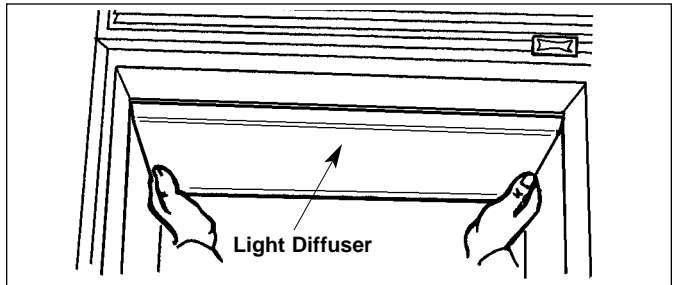
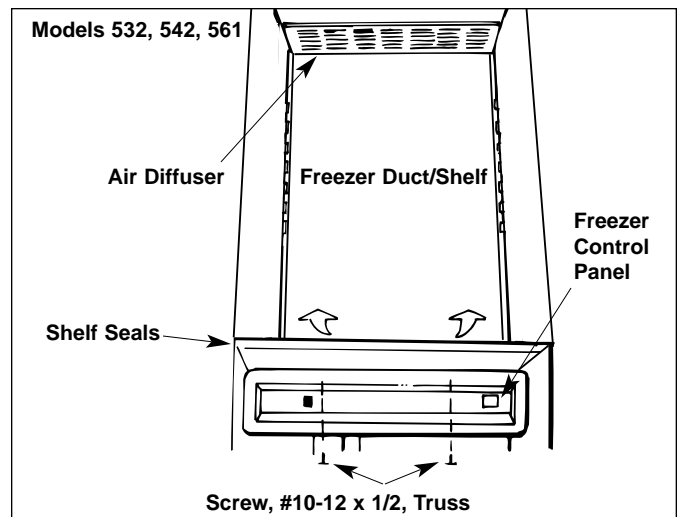
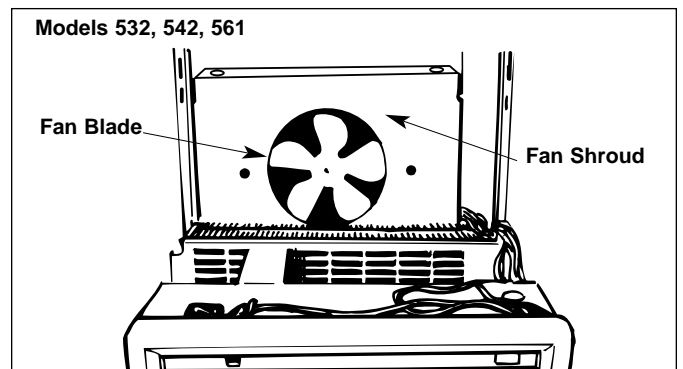

Figure 2-24. Light Diffuser
Figure 2-30. Freezer Duct/Shelf
Figure 2-31. Freezer Fan
1. Remove the overhead light diffuser by grasping the back edge and pulling forward to release, then drop the front edge out of the channel. (Figure 2-24).
1. To access the freezer evaporator fan motor, remove the freezer duct/shelf (Figure 2-30). Remove the two #10-12 x 1/2 screws from the cover and raise up. Disconnect wire harness and continue to raise up until the top lip of the cover releases from the air diffuser. The fan motor is mounted behind the evaporator on the freezer fan shroud (Figure 2-31).
2. To remove fan, remove the screws (Figure 2-24) from the top of the shroud and pull the shroud forward., The fan assembly will now lift straight up from behind the evaporator (Figure 2-31).
3. Reinstall the freezer duct/shelf (Figure 2-30). Insert the top lip of the cover behind the air diffuser and then lower it. Be sure the cutouts in the cover line up with the tabs at the back.